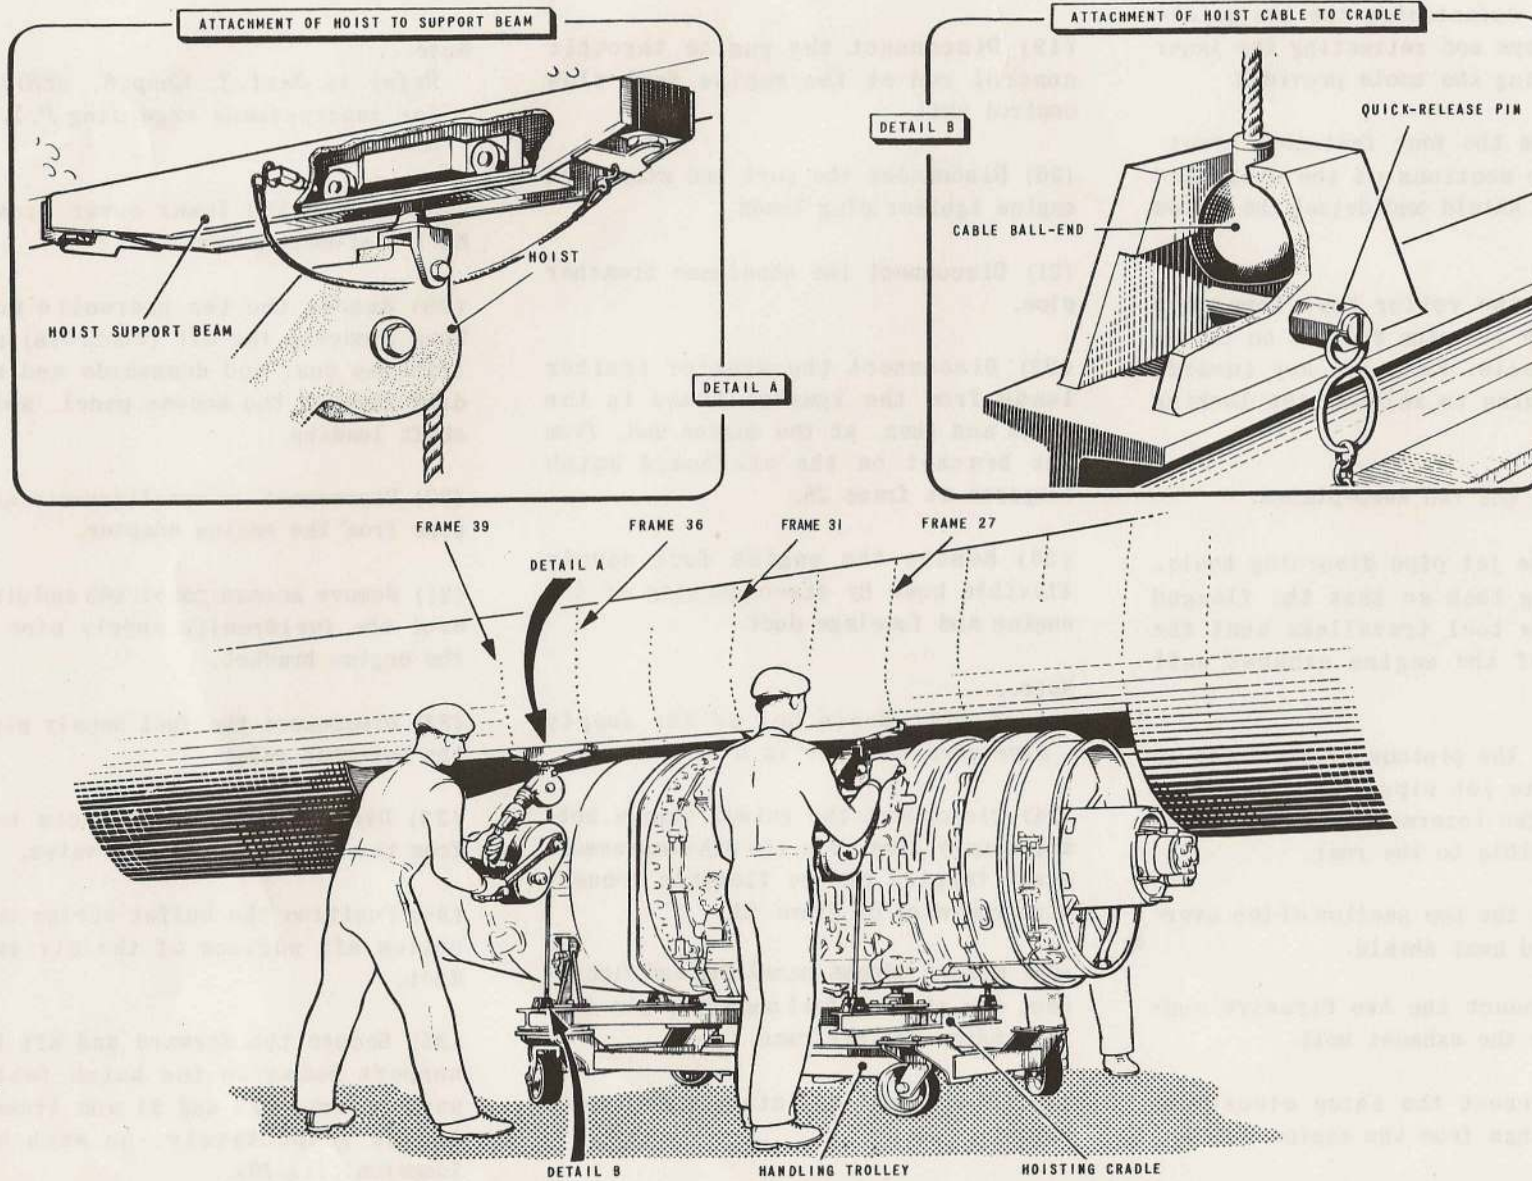

FIG. 10. NO. 1 E.C.U. - REMOVAL AND ASSEMBLY EQUIPMENT
- (28) Remove the lower cover from the No.1 lost-motion box.
- (29) Remove the two hydraulic pumps. When removing the aft (controls) pump, tilt the rear end downwards and withdraw through the access panel, splined shaft leading.
- (30) Disconnect the auxiliary-air system pipe from the engine adapter.
- (31) Remove access panel 46S and disconnect the fuel hydraulic supply pipe from the engine bracket.
- (32) Disconnect the fuel supply pipe to the hot-shot relay.
- (33) Disconnect the air ducts to and from the engine non-return valve.
- (34) Position the buffer strips on the bottom aft surface of the air-intake duct.
- (35) Secure the forward and aft hoist support beams to the hatch fastener nuts at frame 27 and 31 and frames 36 and 39 respectively, on each hatch longeron (*fig.10*).
- (36) Mount the engine hoisting cradle
(37) Fit a hoist to each support beam and enter the ball-ends of each cable into the appropriate cradle attachment; move the ball-ends to the forward end of each slot in the attachments and lock with the quick-release pins (fig. 10).
(38) Raise the cradle to the engine and secure it, at the aft end, to the brackets located below the rear engine mountings. Fit the winch handles to the upper drive dogs and continue winding until the clutch on each hoist slips.